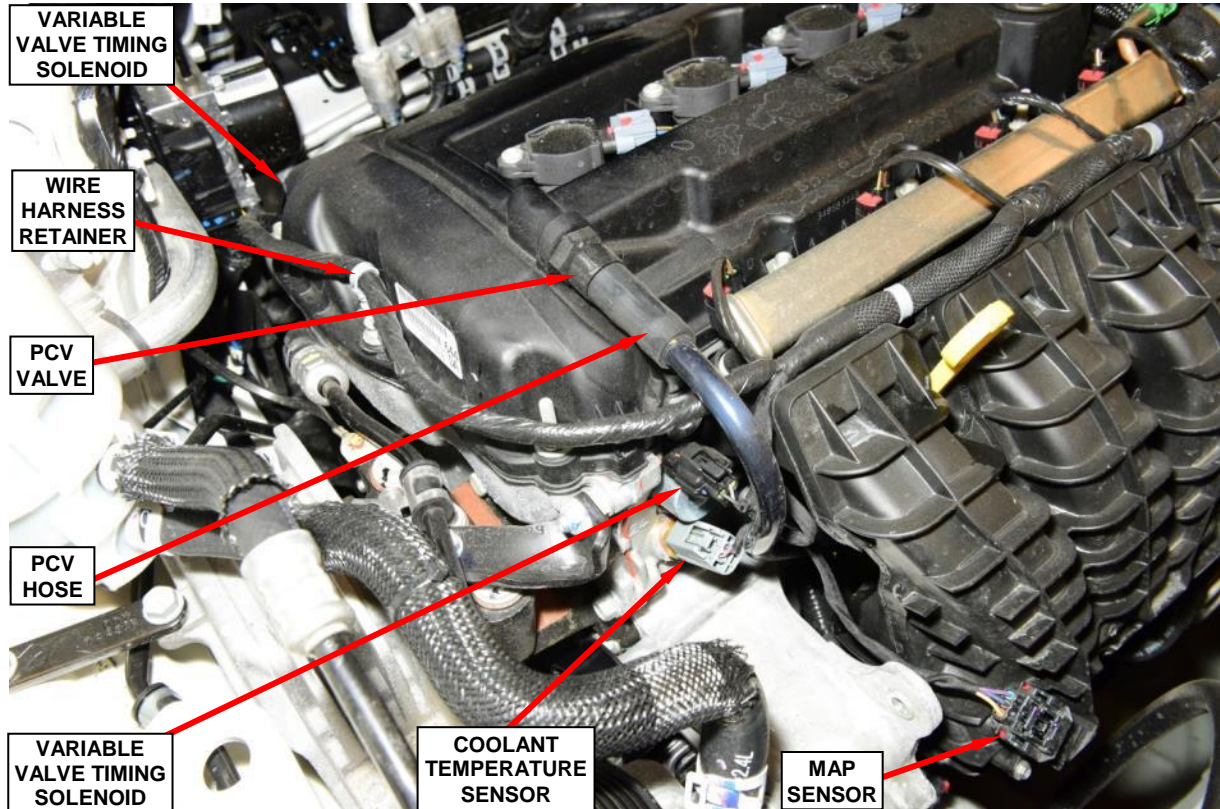

Figure 79 – Engine Wire Harness
37. Disconnect the Positive Crankcase Ventilation (PCV) hose from the PCV valve (Figure 79).
38. Release the engine wire harness retainer from the valve cover stud (Figure 79).
39. Release the engine wire harness retainer from the valve cover (Figure 79).
40. Disconnect the engine wire harness from both exhaust variable valve timing solenoids (Figure 79).
41. Disconnect the engine wire harness from the coolant temperature sensor (Figure 79).
42. Disconnect the engine wire harness from the Manifold Absolute Pressure (MAP) sensor (Figure 79).